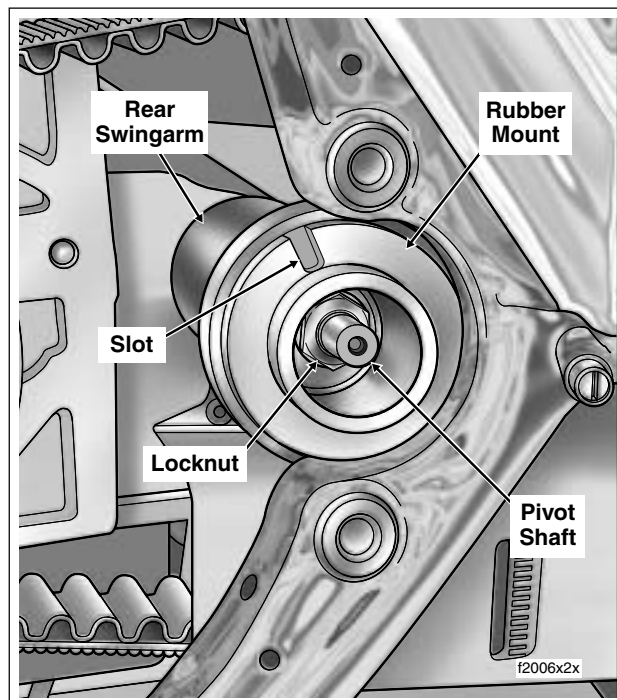

Figure 2-97. Remove Rear Swingarm Bracket (Left Side View)
13. Remove two bolts (with lockwashers) to free rear swingarm bracket from left side of vehicle frame. See Figure 2-97.
- g. Moving to left side of vehicle, rotate the rubber mount so that the slot is between the eleven and twelve o'clock positions. Install left side swingarm bracket fitting index tab into rubber mount slot. See Figure 2-97.